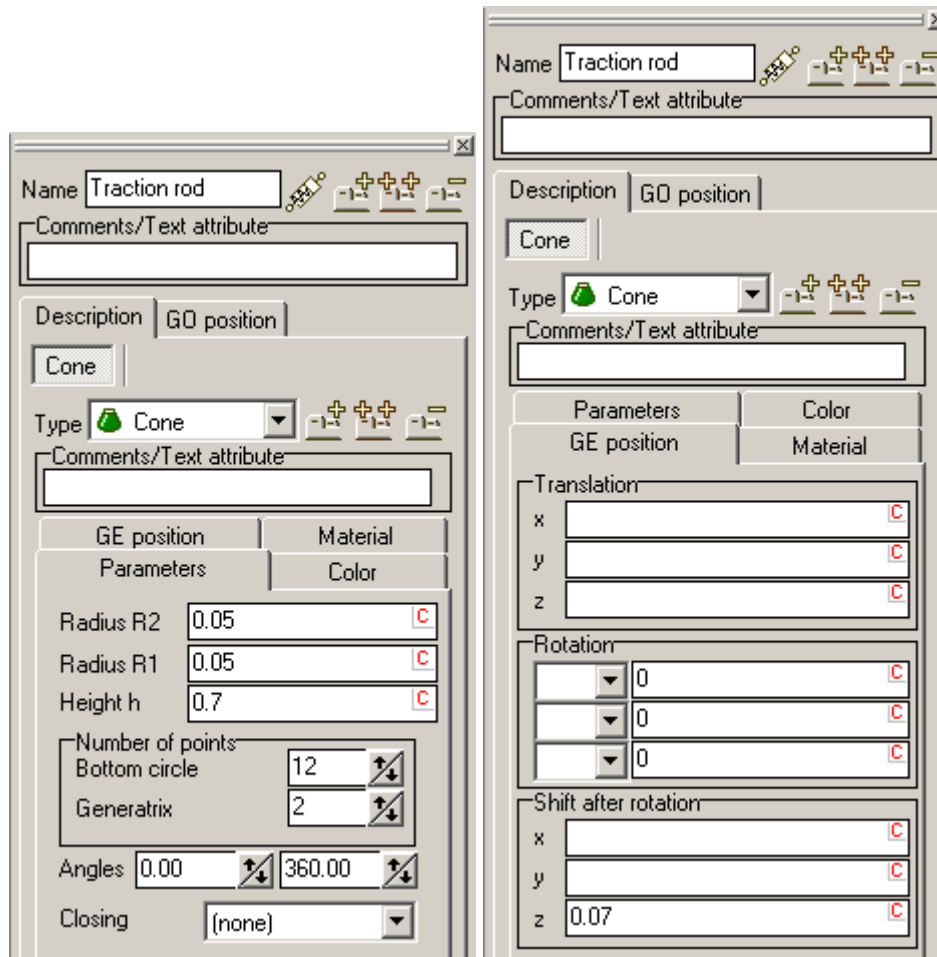

Figure 2.15. Traction rod: cone
2. Add a graphic element (GE) by clicking the  button in the *second* row. Choose its type '**Cone**'.
3. Fill out the **Parameters** tab as it is shown in Fig. 2.15.